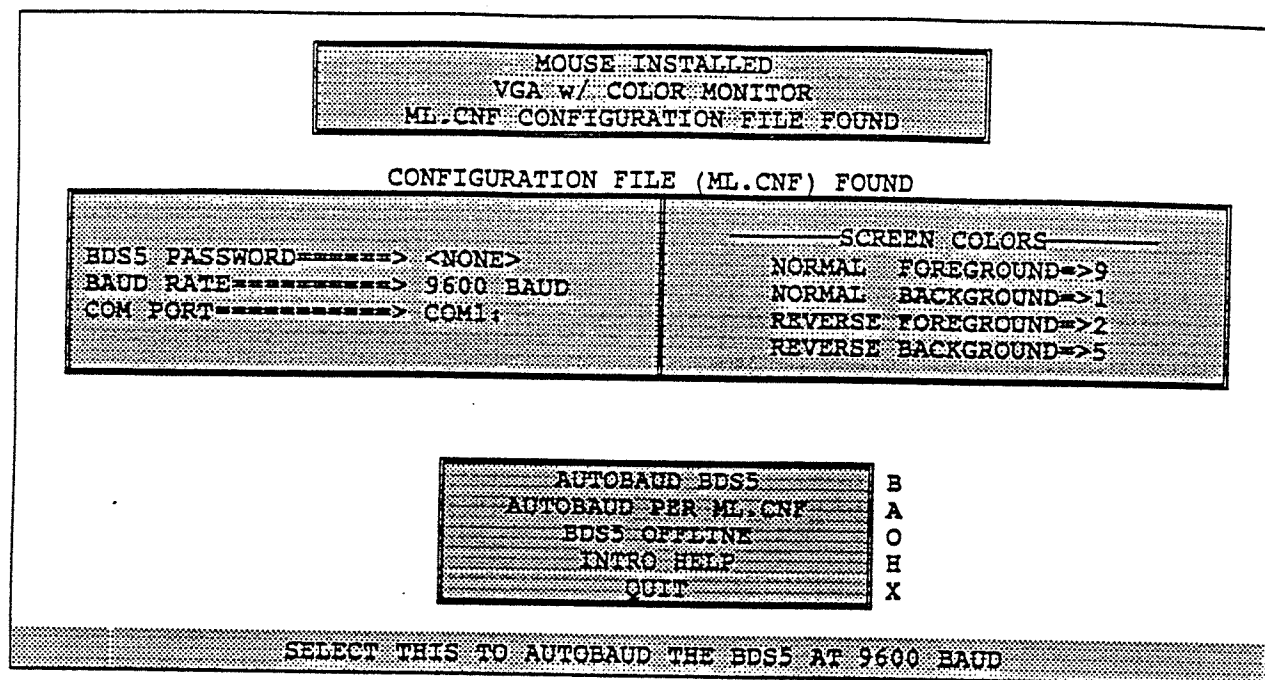

Figure 2.1. BDS5 Introduction Screen
4. When Motion Link responds the BDS5 should respond on your PC monitor with the message in Figure 2.1 (or a similar one).